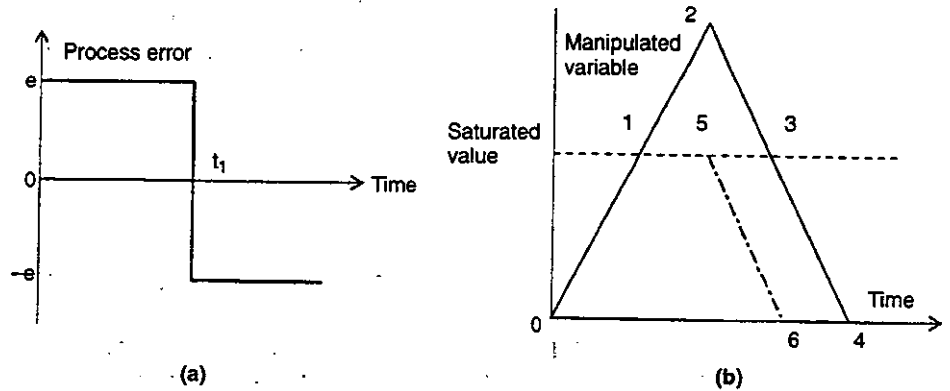

Figure 2.15 Reset Wind-up
- 2) The following describes only the integral action in an open loop, and the behavior when the process error input changes, as shown in *Figure 2.15 (a)*.
- b) If the manipulated variable is saturated, as shown in *Figure 2.15 (b)*, the output of the integrator goes from 0→1→2→3→4 as before, but the actual manipulated variable goes from 0→1→5→3→4.